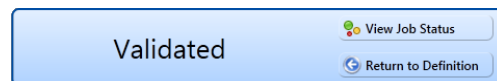

Figure 10-68. Validated Message
- 12 To validate the definition, click the **Prevalidate** button. When the validation process completes and the following message displays (Figure 10-68), click **View Job Status** to open the *Job Status* window or **Return to Definition** to open the *Definitions* window.